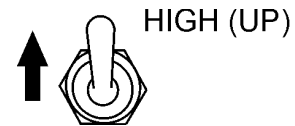

Figure 44. Engine Speed Switch (High)
2. Place the **engine speed switch** (Figure 44) in the **HIGH** position